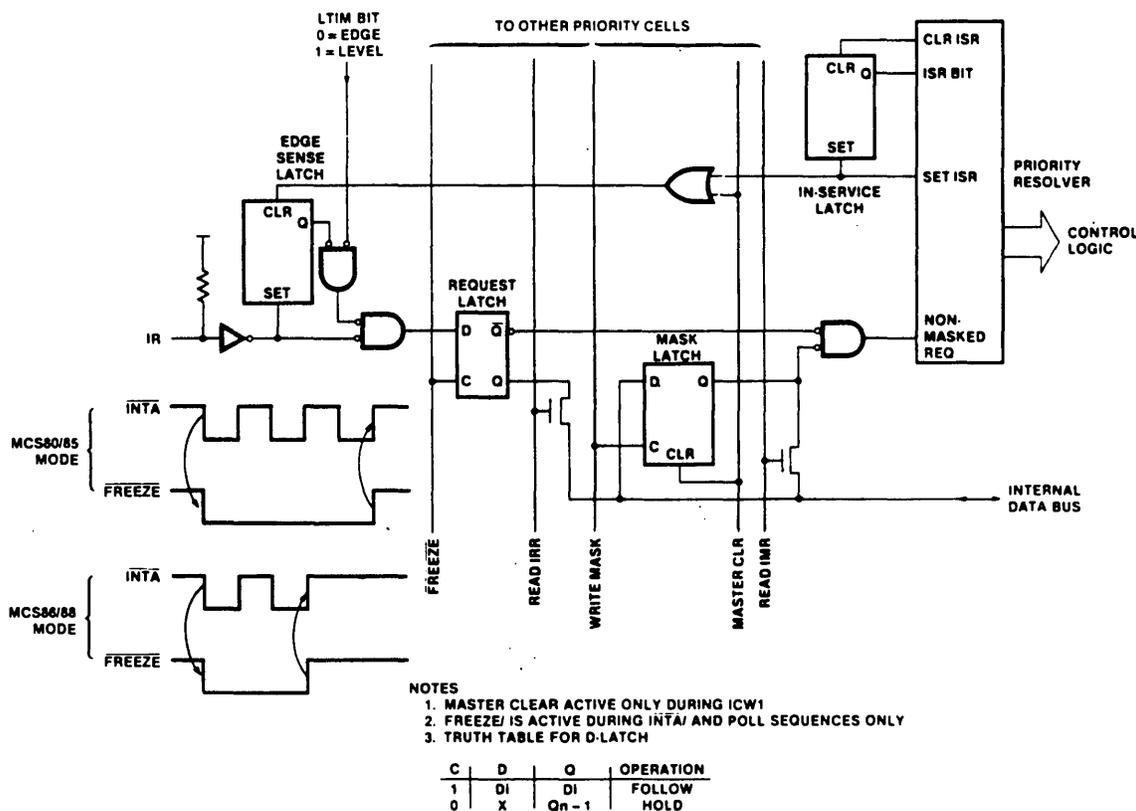

Figure 8. Priority Cell
Figure 8 shows conceptually how the Interrupt Request (IR) input handles an interrupt request and how the various interrupt registers interact. The figure represents one of eight "daisy-chained" priority cells, one for each iR input.